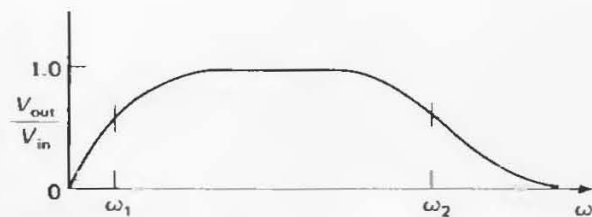

Figure 1.109
(6) Design a bandpass RC filter (as in Fig. 1.109); f_1 and f_2 are the 3dB points. Choose impedances so that the first stage isn’t much affected by the loading of the second stage.